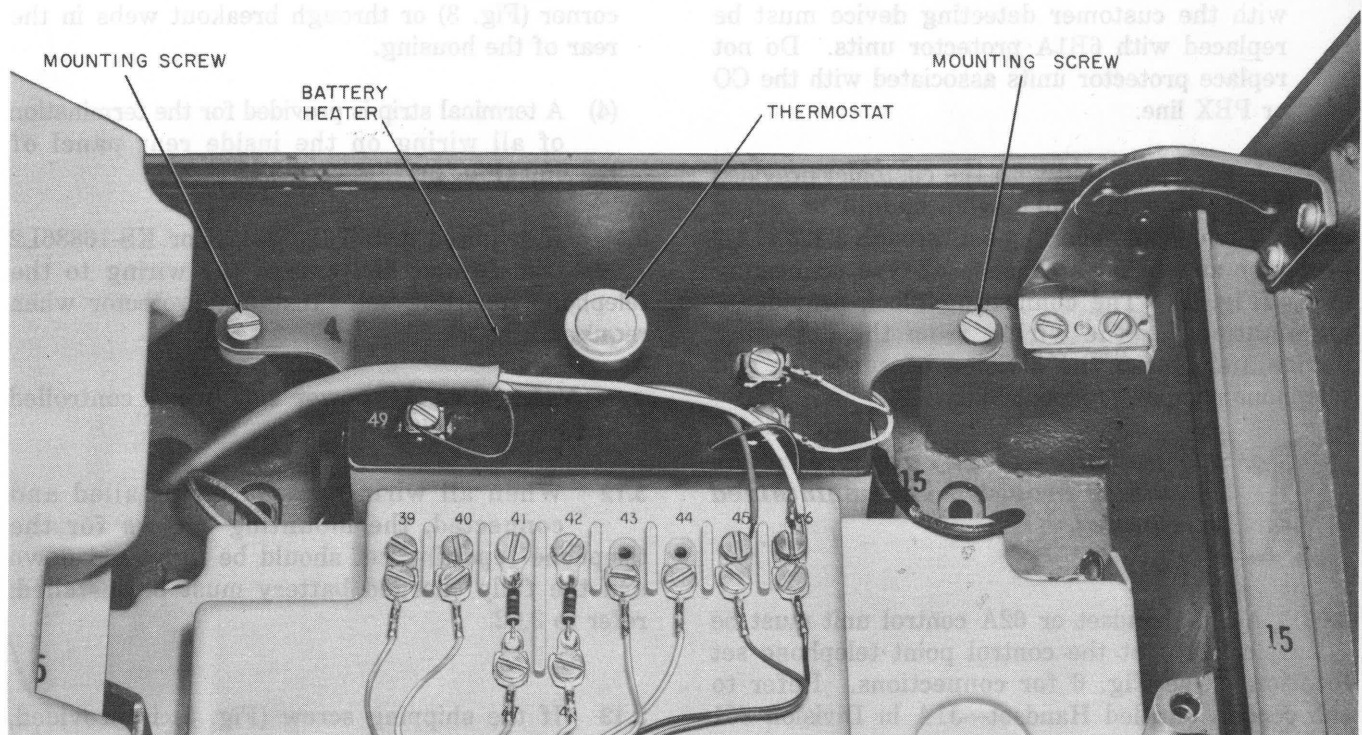

Fig. 4—D-180053 Heater, Installation
(3) CO or PBX battery, if used, must be 48 volts (PBX battery must not be turned off at night).
(4) Associated telephone, if provided, must not be off-hook for more than 2 hours in any 24-hour period.
(5) Set must be operated in temperatures below 140°F and above 0°F.
(6) A notation of the total charging current in the circuit should be made on the line card for each installation.
If any requirement (1-4) cannot be met, install a 2012B transformer on the customer's premise for charging the battery. If requirement (5) cannot be met, a KS-16886L2 transformer and a D-180053 battery heater, Fig. 4 (replaces the regular battery holder) must be installed on the customer's premise. The KS-16886L2 transformer supplies power for maintaining the battery charge and operating the heater (Fig. 7).